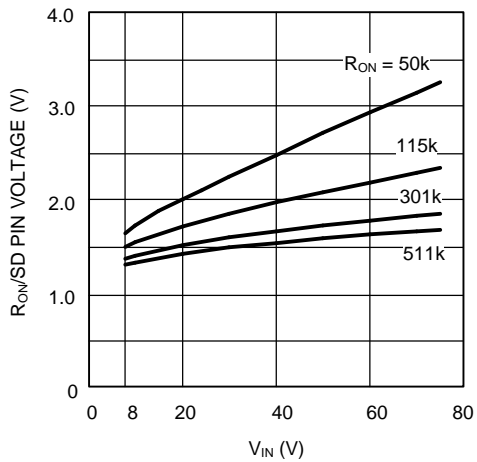
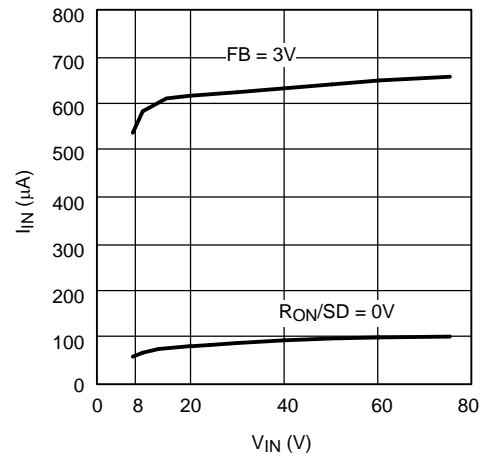
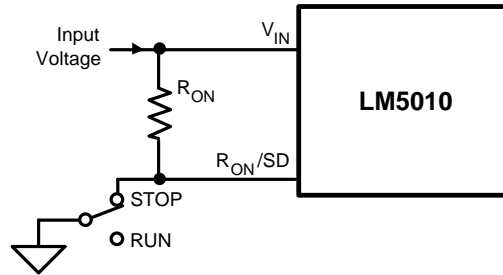

Figure 6. Voltage at  $R_{ON}/SD$  Pin
Figure 7.  $I_{IN}$  vs  $V_{IN}$
Figure 11. Shutdown Implementation
The LM5010 can be remotely shut down by taking the  $R_{ON}/SD$  pin below 0.65V. See Figure 11. In this mode the soft start pin is internally grounded, the on-timer is disabled, and the input current at  $V_{IN}$  is reduced (Figure 7). Releasing the  $R_{ON}/SD$  pin allows normal operation to resume. When the switch is open, the nominal voltage at  $R_{ON}/SD$  is shown in Figure 6.
**D1**: The important parameters are reverse recovery time and forward voltage drop. The reverse recovery time determines how long the current surge lasts each time the buck switch is turned on. The forward voltage drop is significant in the event the output is short-circuited as it is mainly this diode's voltage (plus the voltage across the current limit sense resistor) which forces the inductor current to decrease during the off-time. For this reason, a higher voltage is better, although that affects efficiency. A reverse recovery time of  $\approx 30 \text{ ns}$ , and a forward voltage drop of  $\approx 0.75\text{V}$  are preferred. The reverse leakage specification is important as that can significantly affect efficiency. Other types of diodes may have a lower forward voltage drop, but may have longer recovery times, or greater reverse leakage. D1 should be rated for the maximum  $V_{IN}$ , and for the peak current when in current limit ( $I_{PK}$  in Figure 11) which is equal to: